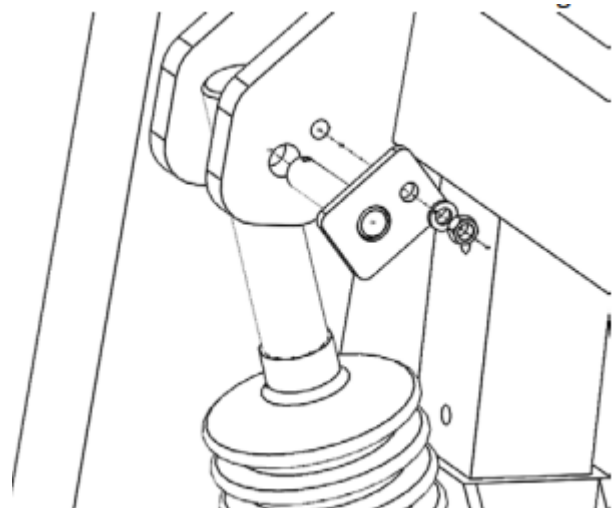

Figure 13
2. Insert one (1) 3/4" Cylinder Pin into the cylinder mounting plate through the Hydraulic Cylinder upper mounting hole as shown in Figure 13.
3. From the inside of the mounting plate, insert one (1) 3/8" Hex Bolt through the mounting plate and the hole on the Cylinder Pin shown in Figure 13.
4. Attach one (1) 3/8" Lock Washer and one (1) 3/8" Hex Nut to the protruding end of the Hex Bolt and fasten with appropriate wrench until secure as shown in Figure 13.